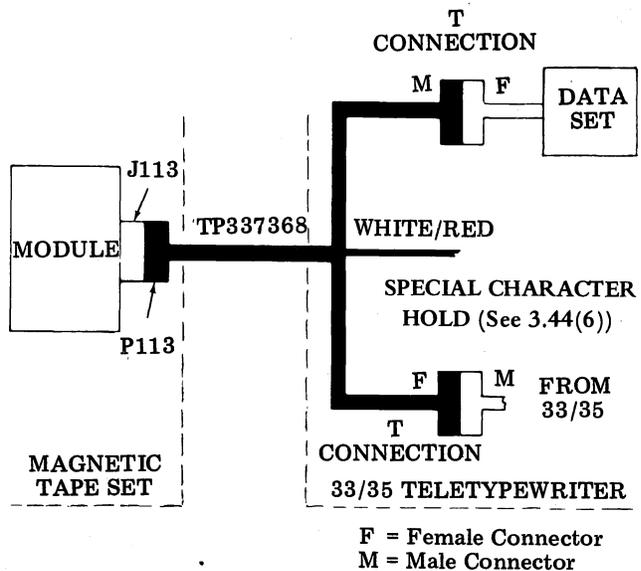

Figure 10 - Magnetic Tape Set Interfaced to 33/35 Teletypewriter With 101 Data Set
3.44 This interconnection is achieved by disconnecting one of the cables between the teletypewriter unit and data set, and connecting these connectors to the two connectors at the end of the TP337368 cable as shown in Figure 10. The procedure is as follows: